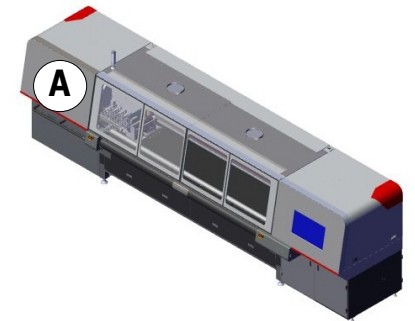

Figure 4-7 Printer Front View
2. Open the carriage compartment door, Figure 4-7 location (A).